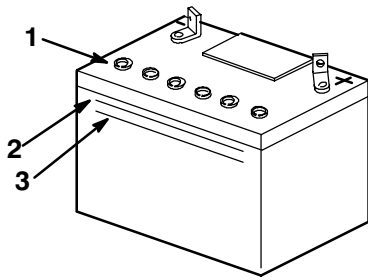

Figure 1
3. Remove the vent caps from the battery (Fig. 1). Slowly pour electrolyte into each battery cell until the electrolyte level is up to the Upper line on the battery case (Fig. 1).
- Wait five to ten minutes after filling the battery cells. Add electrolyte, if necessary, until the electrolyte level is up to the Upper line (Fig. 1) on the battery case.